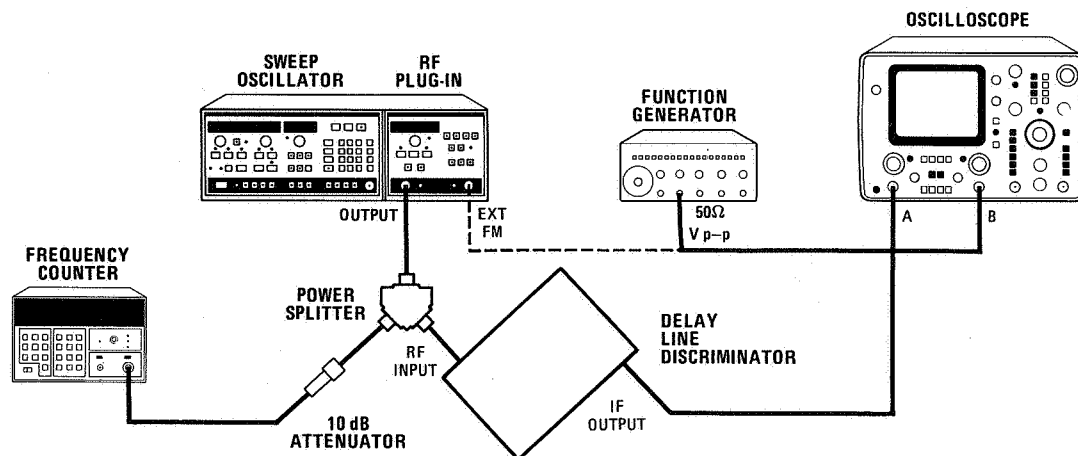

Figure 4-16. >100Hz Frequency Modulation Test Setup
6. Set function generator output amplitude to 0.1 volt p-p output. Connect equipment as shown in Figure 4-16 with function generator output not connected. Adjust CW and CW VERNIER for a delay line discriminator output of '0' volts as observed on oscilloscope. Note frequency counter reading on test card step 6.